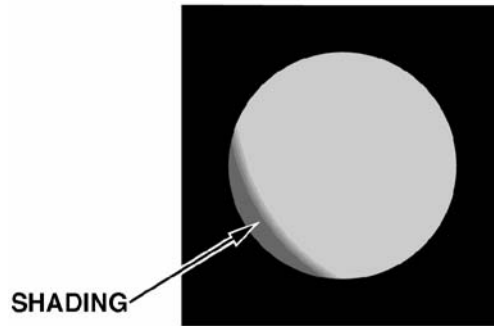

Figure 2-1. Shading.
(1) Shading. Each monocular should present a circular image. If shading is present, you will not see a fully circular image (Figure 2-1). Shading is indicative of a dying photocathode caused by a defective vacuum seal on the image intensifier. Shading is very dark and you cannot see an image through it. Shading always begins at the edge and migrates inward eventually across the entire image area. Shading is a high contrast area with a distinct line of demarcation. Do not confuse shading with variations in output brightness – refer to paragraph 2-9c(6). If shading is present, the image intensifier assembly must be replaced by AVIM.